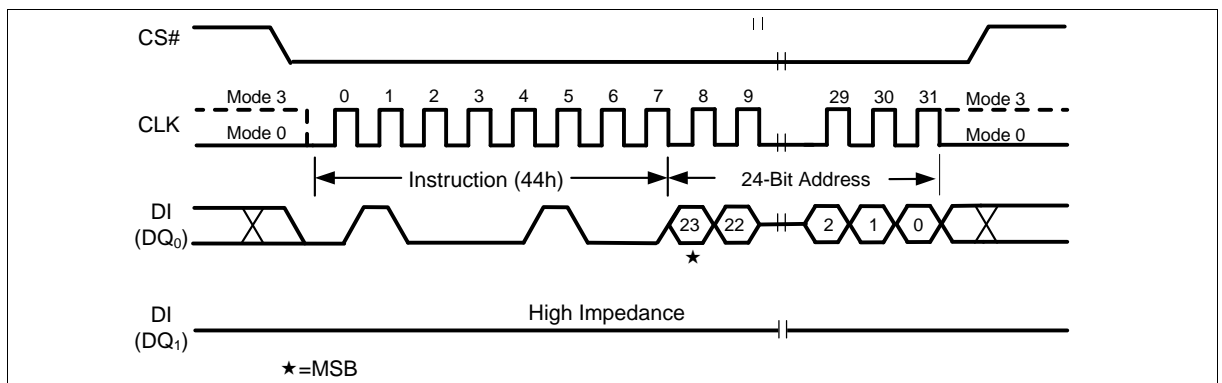

Figure 64 Erase Security Sector Instruction (SPI Mode only)
The Erase Security Sector instruction sequence is shown in Figure 64. The CS# pin must be driven high after the eighth bit of the last byte has been latched. If this is not done the instruction will not be executed. After CS# is driven high, the self-timed Erase Security Sector operation will commence for a time duration of  $t_{SE}$  (See “11.6\_AC Electrical Characteristics”). While the Erase Security Sector cycle is in progress, the Read Status Register instruction may still be accessed for checking the status of the WIP bit. The WIP bit is a 1 during the erase cycle and becomes a 0 when the cycle is finished and the device is ready to accept other instructions again. After the Erase Security Sector cycle has finished the Write Enable Latch (WEL) bit in the Status Register is cleared to 0. The Security Sector Lock Bit (LB) in the Status Register-2 can be used to OTP protect the Security Sector. Once a lock bit is set to 1, the Security Sector will be permanently locked and Erase Security Sector instruction will be ignored.